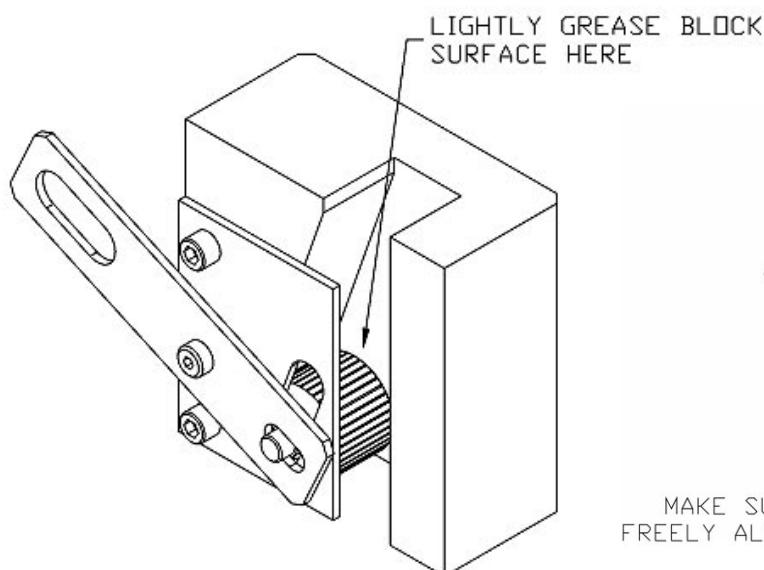
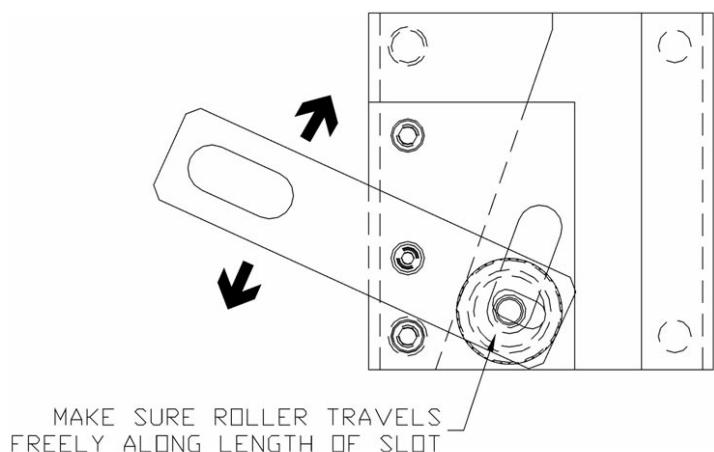

Figure 32 Safety Block (R/H)Shown
Figure 33 Adjusting Safety Block
- 1) Bolt the safety blocks securely to the stiles with lock washers. Ensure the proper length bolts are used so that they are threaded at least $\frac{1}{2}$ " (13 mm) into the safety block. See Figure 32 and Figure 33.